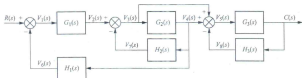

Figure 4: Block diagram for a transfer function
4. a) Find the equivalent transfer function, $T(s)$ for the system shown in Figure 4. Convert and simplify the block diagram to a signal-flow graph.